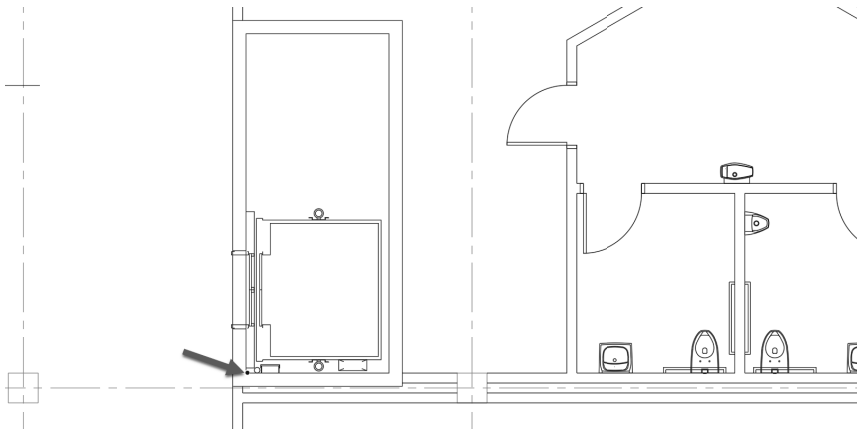

FIGURE 4-3.13 Elevator inserted into your floor plan (black dot in lower-left for reference only)
26. Select the same, relative, location as the insertion point (shown as a black dot in lower-left in Figure 4-3.13).
The angled line that trims the tread lines in Figure 4-3.13 represents the cut-line of the floor plan. The location of this line is not too critical; it is best to place it where the major features of the stair can still be shown. Depending on the distance between floor levels, you might have a significant space below the stair and need to show seating or flooring patterns. Codes require the lower portions of the stair (i.e., under the stair) to be enclosed so the visually impaired do not run into the stair. Sometimes it is desirable to enclose the underside of the stair completely to avoid hard-to-clean spaces; in this case you might see a wall pickup on the other side of the cut line. Even though the stair reached up past the cut line, the wall resting on the floor still continues for the length of the stair.